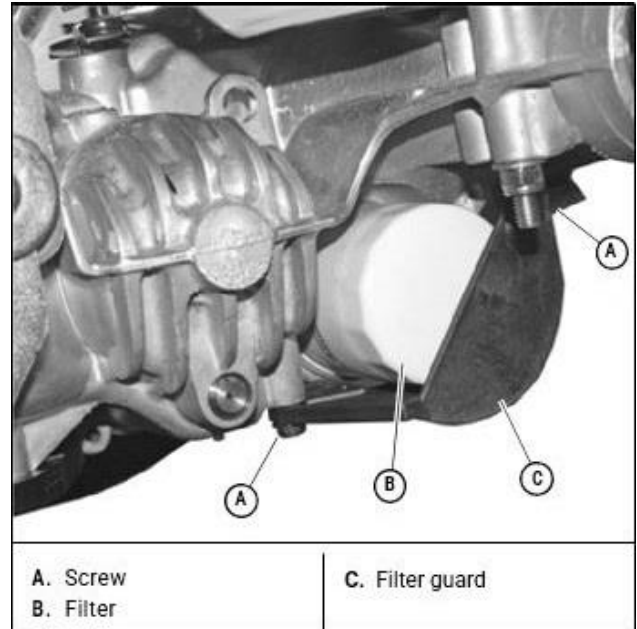

Figure 12
2. Remove the three 1/4" filter guard screws and filter guard. Clean any loose debris from around the filter. [Figure 12]
6. Re-install the filter guard with three 1/4" screws. Torque the screws to 65 in-lbs. each. [Figure 12]